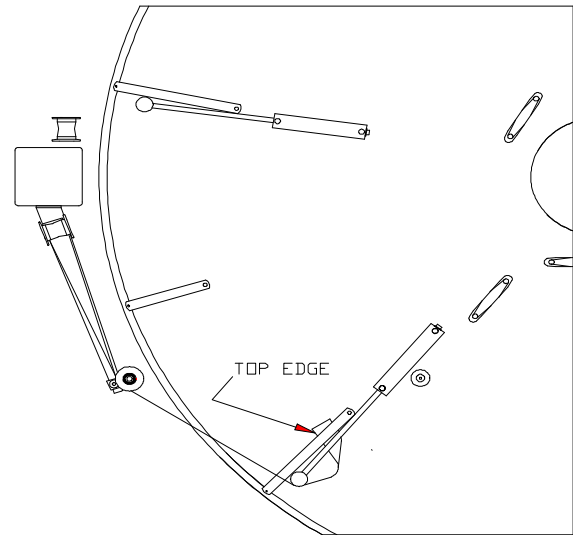

Figure 3
14. Thread the film through the Take-Up to the Loop Disk . Wrap the film around one of the Make-Up Guide Knobs and tuck it under the rubber strip as shown in Fig. 3.
14. Thread the film through the Take-Up to the Loop Disk. Wrap the film around one of the Make-Up Guide knobs and tuck it under the rubber strip as shown in Figure 3, page 4.